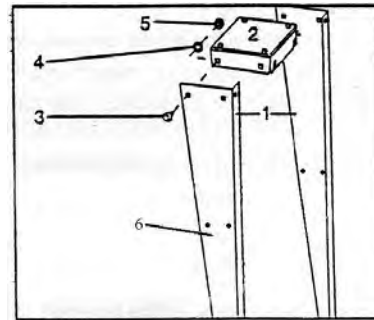

Fig. 8: Assembly of the machine frame
Step 1: Screw the frame feet (Pos. 1, Fig. 8) to the bracket (Pos. 2, Fig. 8) using 3 M8x12 round head screws (Pos. 3, Fig. 8) and the corresponding washers (Pos. 4, Fig. 8) and nuts (Pos. 5, Fig. 8).
Step 2: Attach the tool rest to the intended position (Pos. 6, Fig. 8) with a total of 8 M8x12 round head screws, washers and nuts.